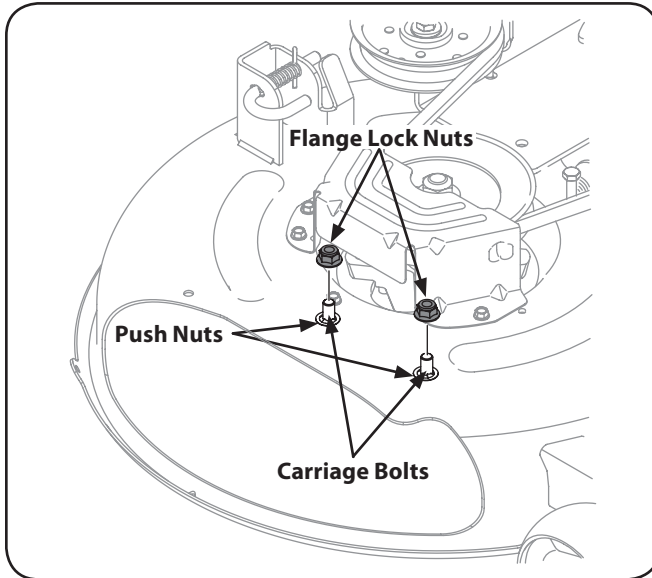

Figure 3-3
2. Remove the flange lock nuts from the deck. Do not remove the push nuts or carriage bolts, leaving them in place will aid in installing the chute. See Figure 3-3.